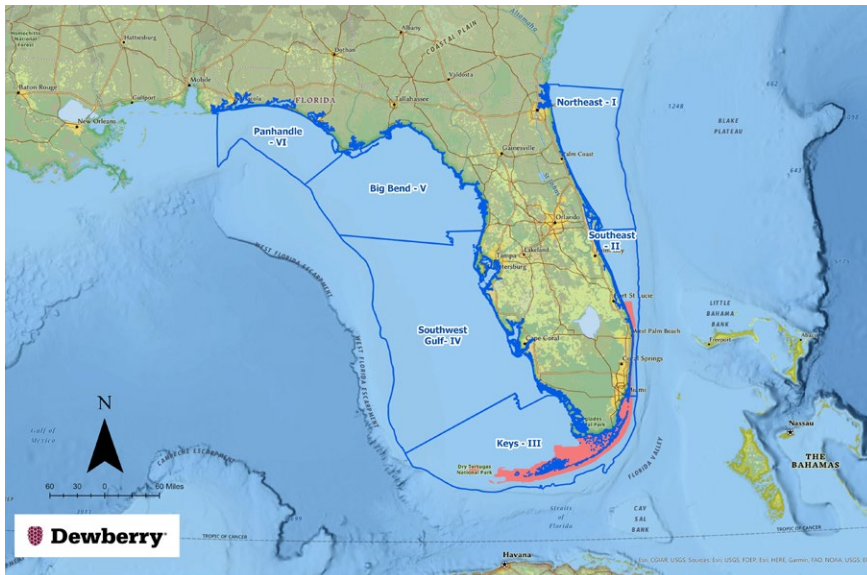

Figure 1: The six regions identified by FCMaP and subsequently adopted by FSMI. Coral reef area shown in pink.
**F**lorida boasts the longest coastline of any state in the contiguous U.S., with over 8400 linear miles (NOAA method)1. Florida also has the largest submerged shallow shelf on the Gulf of Mexico/ Atlantic Ocean and the only coral reef system (**Figure 1**) in the contiguous U.S. (Florida Department of Environmental Protection's Office of Resilience and Coastal Protection).